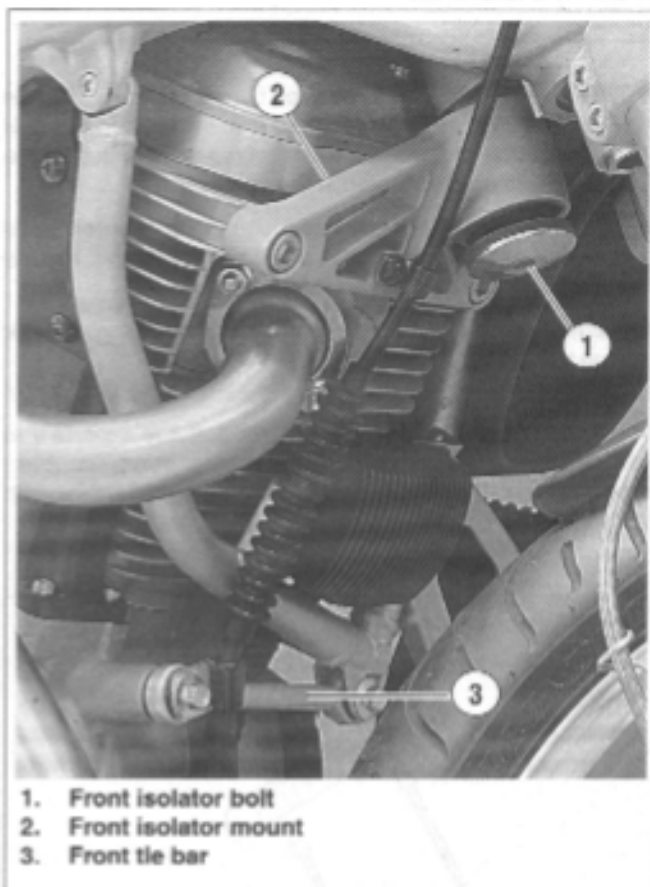

Figure 3-8. Front Isolator and Tie Bar Assemblies
23. See Figure 3-8. Remove front isolator bolt.